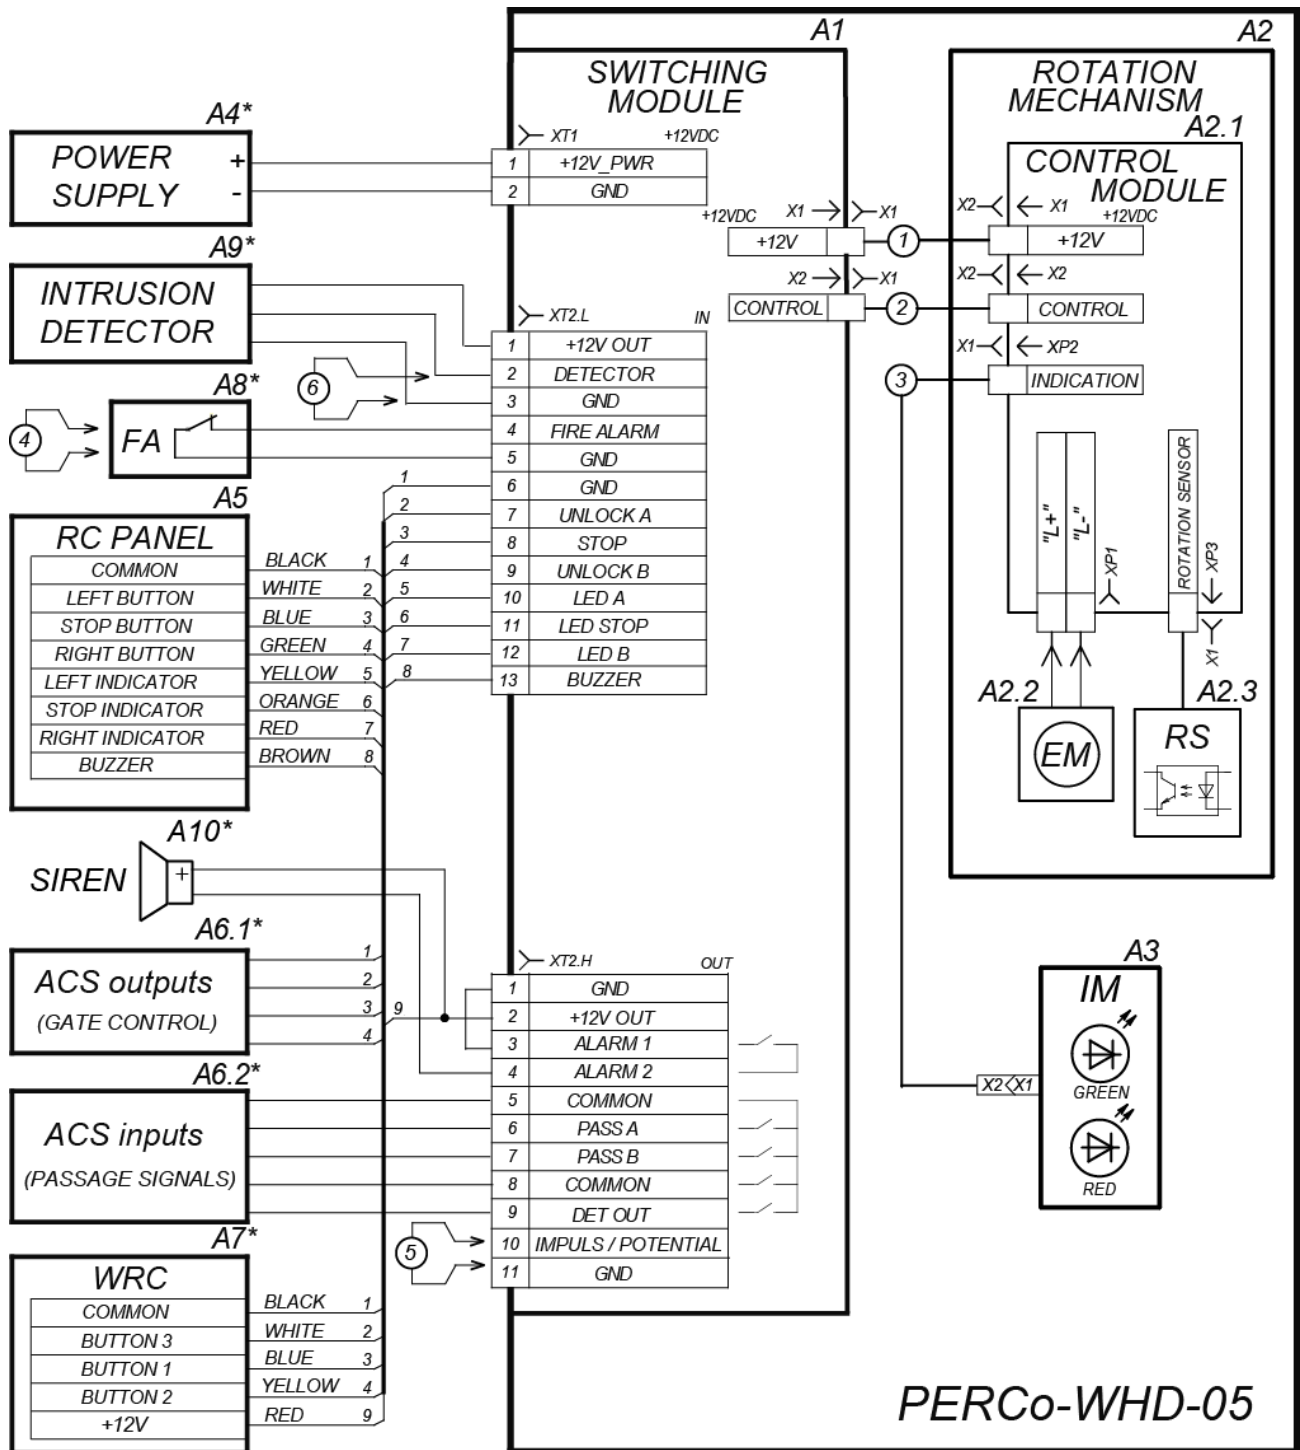

Figure 10. Electrical connection layout for switching module board (legend is given in Table 3)
7. Remove bracket (6) with switching module (7) from the gate post through the hole in the basement.
8. Connect cable of RC panel (ACS/ WRC device) and power supply cable to switching module according to the scheme on Fig. 10.
9. Install bracket (6) with switching module (7) back on its place.
11. Install gate post (1) on anchor shells and fix it with anchor bolts; put it vertically by using a lever.
Table 3. Legend to Fig. 10